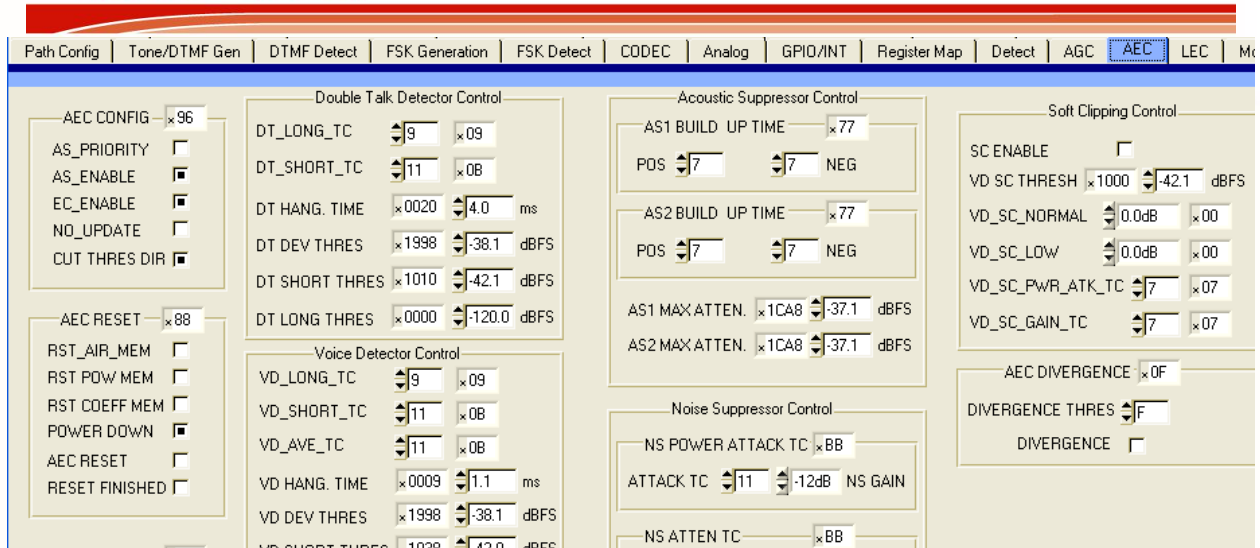

Figure 3-11 AEC Parameters
Similarly, to tune the AEC (D) users just click on the AEC block, and the software utility automatically switches to the AEC panel as in Figure 3-11. For register details of AEC and LEC, please refer to design guide, section 8.18 Air and Line CODEC.